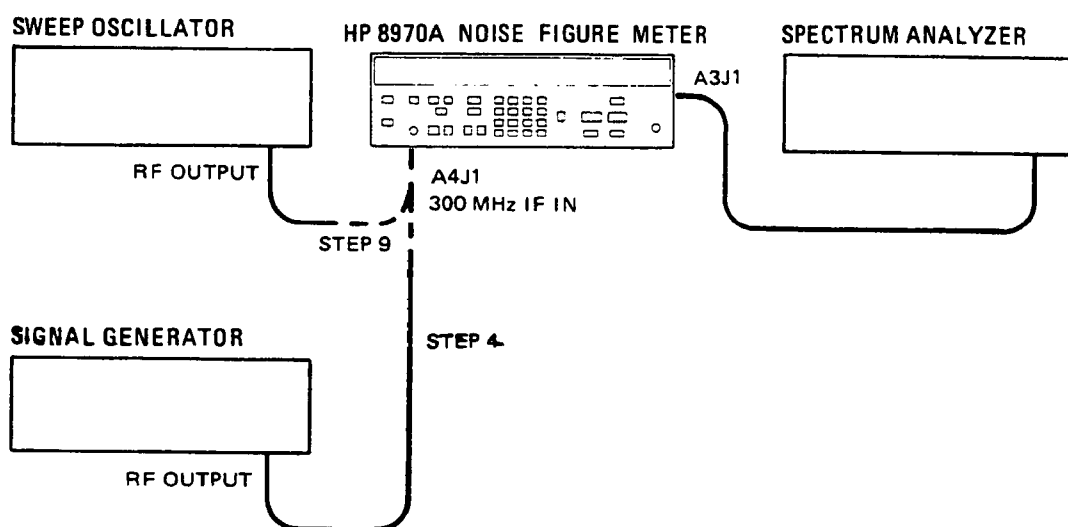

Figure 5-3. 300 MHz IF Bandpass Filter Adjustment Setup
4. Connect the equipment as shown in Figure 5-3. Turn on the equipment. Note that an error display on the Noise Figure Meter is normal when the signal path is broken.
9. Disconnect the signal generator, and connect the sweeper to A4J1 (300 MHz IF IN). (See Figure 5-3.)